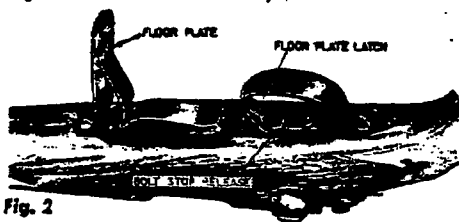

Fig. 2
**BARREL CARE** — Use lightly oiled patch, cleaning from breech to muzzle. Remove bolt to make cleaning easier. Press upwards on bolt stop release (Fig. 2) and pull bolt from receiver. Scrub bore with cleaning solvent if necessary.